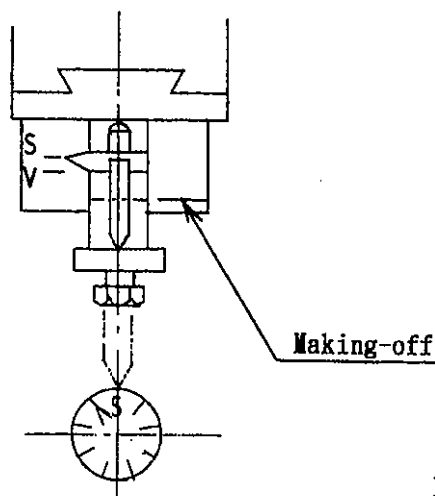

Fig. 10
Reference angle 30 degrees (Same as the valve angle) is a position where the lower end of the preserve plate (78) meet with the marked line. (As shown in Fig. 10 and Fig. 26)